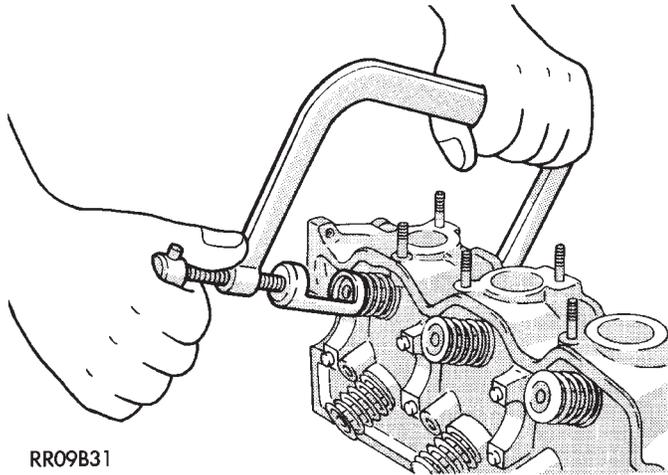

Fig. 17 Remove Valves
- (1) With suitable valve spring compressor, remove spring retainer locks, retainer, valve spring, spring seat and valve (Fig. 17).